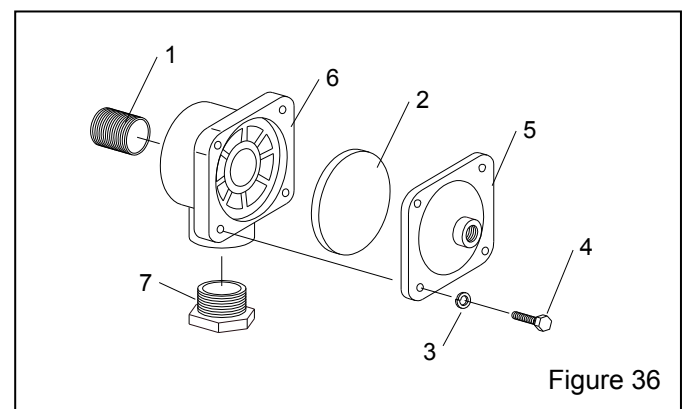

Figure 36
9.6 1" Diaphragm Outlet Valve, Figure 36